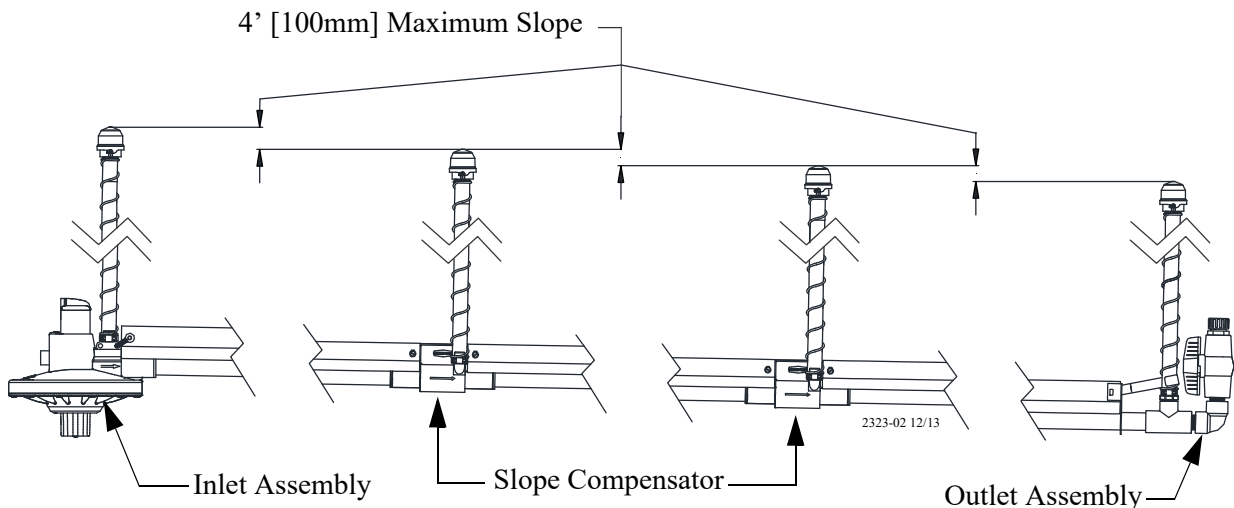

Figure 18. Slope Compensator Assembly Installation
- The maximum amount of drop between the inlet assembly and the slope compensator, between two slope compensators, or between the slope compensator and the outlet assembly is 4 inches [100 mm], see figure 18.
- The maximum amount of slope over any water line is 28 inches [71 cm] of drop, see figure 18.